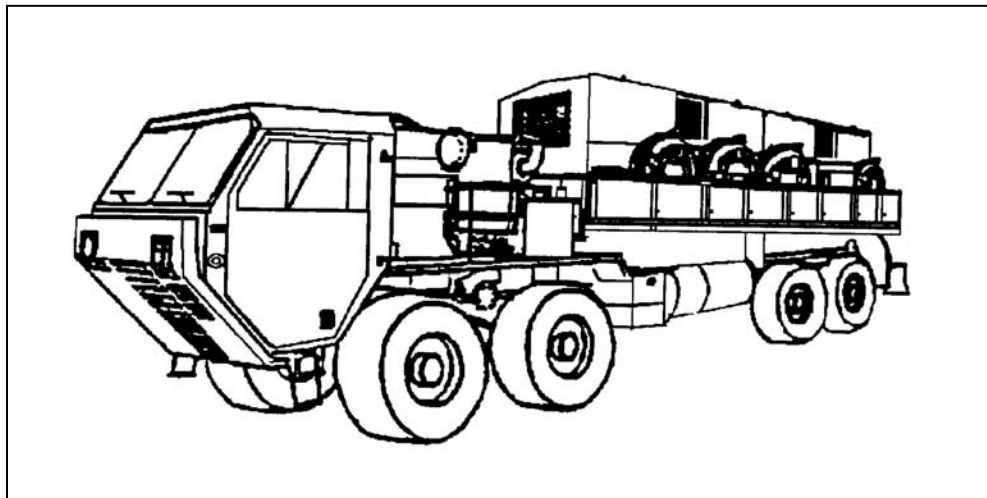

Figure 2-12. March-ordered EPP III
ILLUSTRATIONS: Figure 2-12.
(1) Using a diagram, Figure 2-12, a sand table, or a simple sketch in the dirt, show the crew members how the EPP should be march ordered.
(2) Tell the crew members what their duties are in the drill.
(3) Read the performance measures of the drill to the crew members.
(4) Have the crew members explain their performance measures to ensure that they understand them.